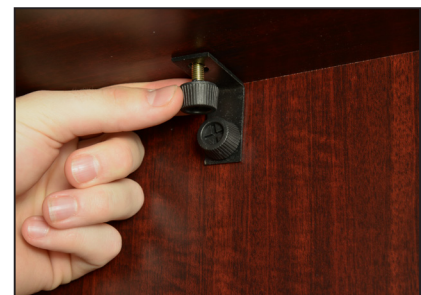

Figure 3
**STEP 3B:** Finally, place Thumb Screw into the front angle bracket connecting the **Desk Top (A)** to the **Desk Front (B)** (see figure 3.)